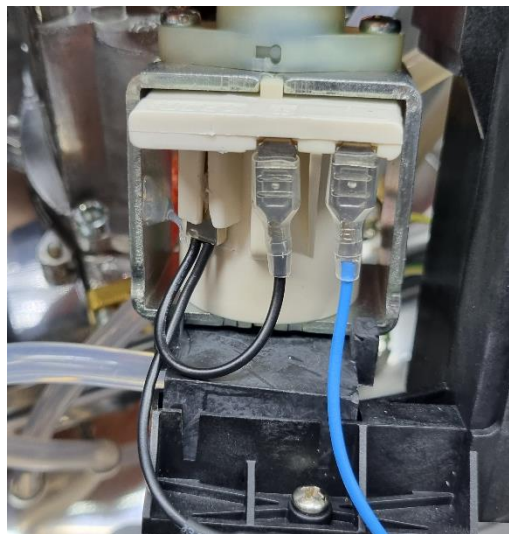

Fig. 11.2
- Connect the 2 plugs on pump side and insert the overheat protection in the designated place on the pump. (fig. 11.2)